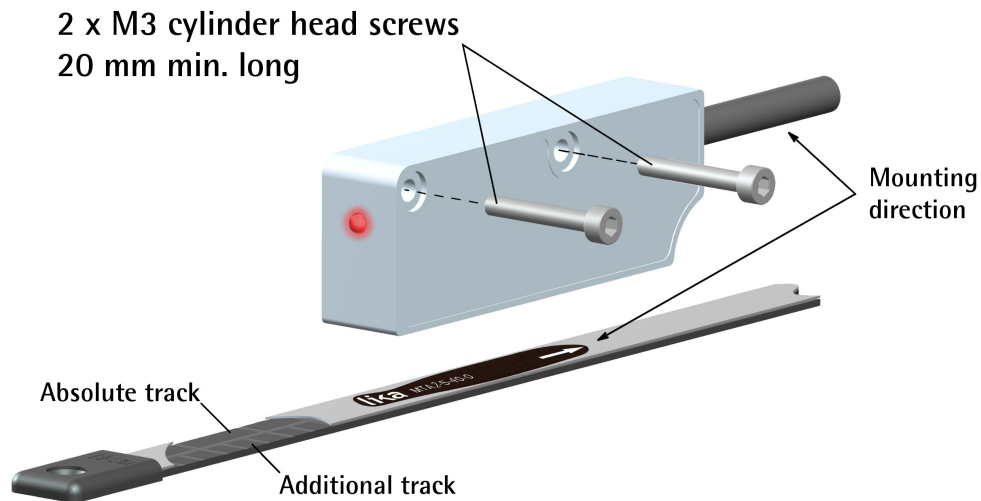

Figure 1
The SMA21 linear encoder is designed to measure long displacements up to 32,749 mm (107.4 ft) in industrial machines and automation systems. The measurement system includes a magnetic tape and a magnetic sensor with conversion electronics. The scale is magnetized with a coded sequence of North-South poles and can be fitted with two tracks: an absolute track on one side and a track for incremental signals on the other side (on specific models only, see Figure 1). As the encoder moves along the magnetic scale, the sensor detects the displacement and yields the absolute position information through the SSI interface (order code SMA21-GGx-..., SMA21-G1x-..., and SMA21-BGx-...), the BiSS C-mode interface (order code SMA21-SCx-...), or the RS-485 serial interface (order code SMA21-JP1-...). In specific version the encoder can further provide additional AB /AB incremental signals for speed feedback through the Line Driver RS-422 level output circuit.
The Figure 1 shows how the sensor and the scale must be installed; please note that the MTA-A154 magnetic scale can be fitted with two tracks: an absolute track on one side and a track for incremental signals on the other side (see Figure 1). You must always comply strictly with the mounting direction!
The system cannot work if mounted otherwise than illustrated in Figure 1.
Please note that the MTA-A154 magnetic scale can be fitted with two tracks: an absolute track on one side and a track for incremental signals on the other side (see Figure 1). You must always comply strictly with the mounting direction!
3.4 Measuring length (Figure 1)
The **maximum tape length** is 16,339 mm (643.268") for 1 µm resolution RS-485 interface version; it is 32,749 mm / 1289.33" for all other versions. For further information refer to the order code of the tape in the product datasheet. The sensor area must always be fully within the limits of the tape magnetic surface, then the **maximum measuring length** is the maximum length of the tape minus the length of the sensor head (and further two safety sections at both ends each one being min. 2-pole pitch long). For instance: if the travel in your application is 5,000 mm / 196.85", then the minimum length of the tape to be installed will be: 5,000 mm / 196.85" (measuring length \textcircled{d}) + 63 mm / 2.48" (length of the bottom of the readhead \textcircled{c} , see also the Figure 1) + 2 x 2 mm / 0.079" (the length of two pole pitches for safety reasons \textcircled{b}). If you install the optional tape terminals add 1 cm (0.4") \textcircled{a} . The sum of \textcircled{a} + \textcircled{b} values must be doubled as it is intended for each end of the tape. The minimum length of the tape will be 5,071 mm / 199.646".
4.7 Standard counting direction (Figure 1)
The positive counting direction (count up information) is achieved when the sensor moves on the tape according to the white arrow shown in Figure 1. In the BiSS interface the counting direction can be set so that the count up information is provided when the sensor moves on the tape in the direction opposite to the one shown by the white arrow in Figure 1. For further information refer to the **Counting direction** parameter in the **Configuration** register on page 31. The counting direction cannot be changed in the SSI and RS-485 interfaces.